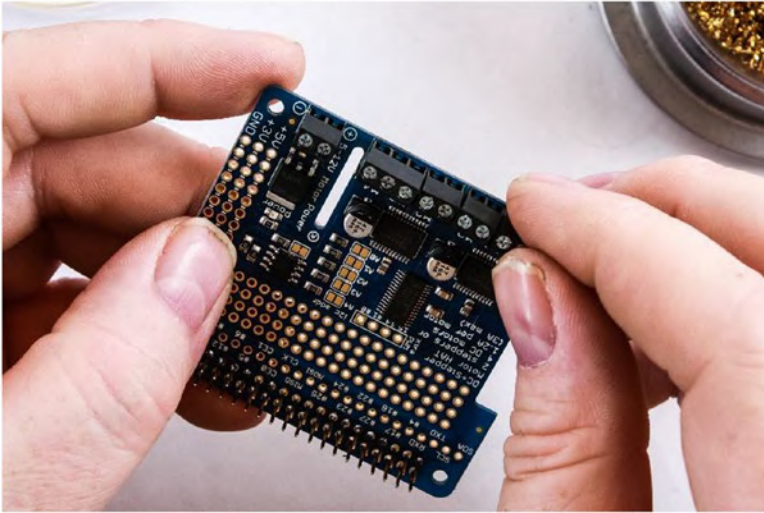

Figure 6-11. Adding the terminal blocks to the circuit board
8. Mount the screw terminals onto the board (see Figure 6-11).